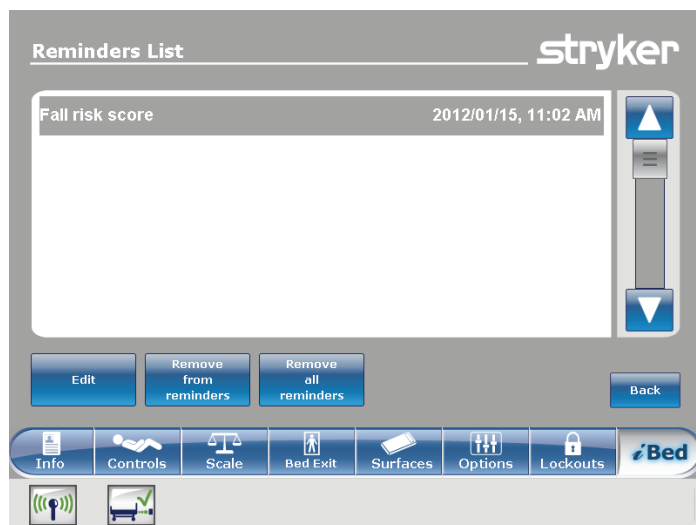

Figure 90 – Reminders List
**View reminders list:** View a list of reminders and the values for the date, time, and reminder that was set (Figure 90).
The **Reminders List** screen lists reminders and the values for the date, time, and reminder that was set (Figure 90).